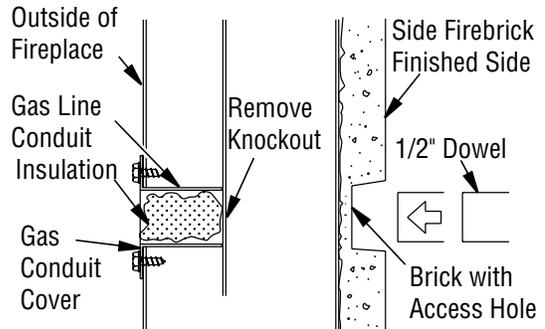

Figure 20 - Gas Line Access
1. Remove knockout indentation on refractory or firebrick wall located above refractory hearth floor. Knockout indentation must be firmly tapped with any solid object such as a 1/2" dowel until it is released. Remove fragmented portions of refractory (see **Figure 20**).